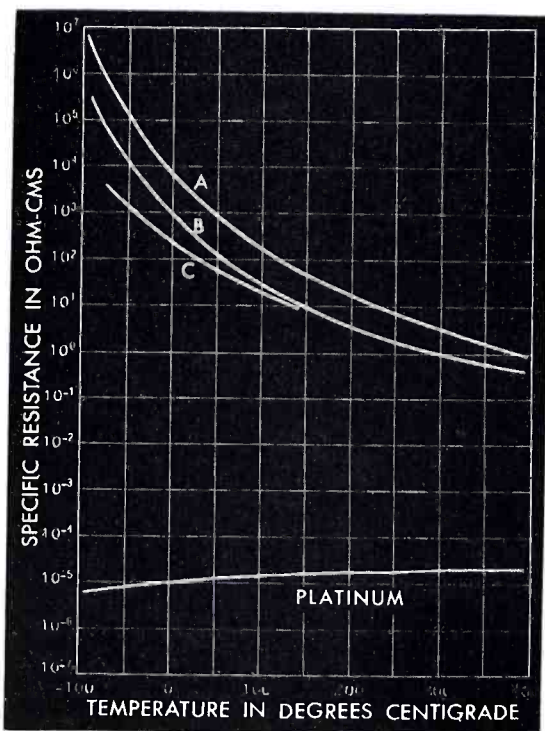
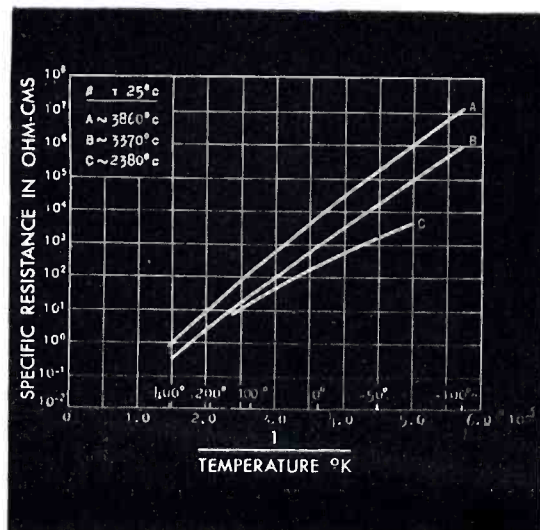

FIGURE 1 — Resistance-temperature curves of three typical thermistor materials over a 500 Centigrade range, as compared with a representative metal.
FIGURE 2 — A replotting of Figure 1 in terms of inverse absolute temperature. It may be noted slope of curves is fairly constant over wide range.
*Temperature Resistance Characteristics:* Figure 1 demonstrates the change in resistance which can be produced in three of
In Figure 2 which is the same as Figure 1 except that values are plotted against inverse absolute temperature, it will be observed that  $\beta$  is the slope of the curves. The values of  $\beta$  are approximately constant over a wide temperature range, decreasing however at low temperatures and increasing at high temperatures.